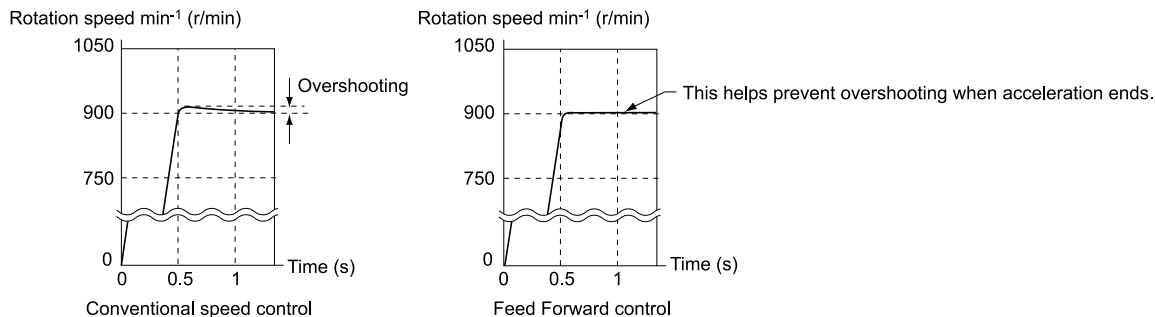
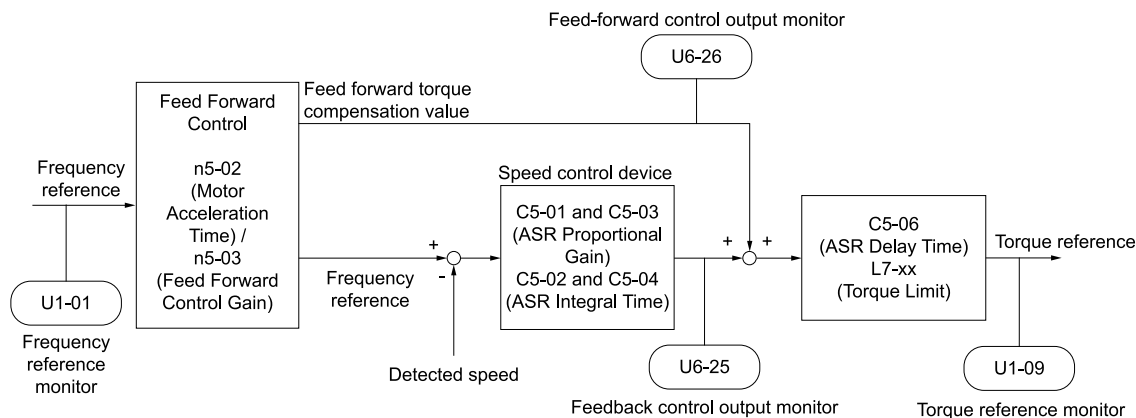

Figure 2.144 Suppress Overshooting with Feed Forward Control
Figure 2.145 Configure Feed Forward Control
Increase $C5-01$ and $C5-03$ [ASR Proportional Gain] to apply feed forward control to machines that have low rigidity and are possible to have hunting and vibration or to machines that have a large quantity of inertia. When you use this function in CLV control, it also helps prevent overshoot. Refer to Figure 2.144. Refer to Figure 2.145 for more information about parameters related to feed forward control.
- If you cannot do Inertia Tuning, refer to Figure 2.145 and set the parameters related to feed forward control individually.